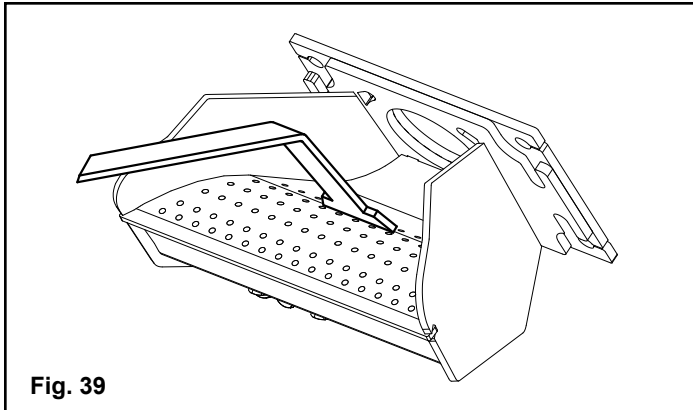

Fig. 39
5. Open the burn pot clean-out. Clean fly ash from the burn pot and replace the cover. See Figures 39 and 40 on page 26.
1. Scrape the top holed surface and sides of the burn pot. (Fig. 39) It is not necessary to completely remove all loose material from the burn pot. The excess will be pushed out during the next use.